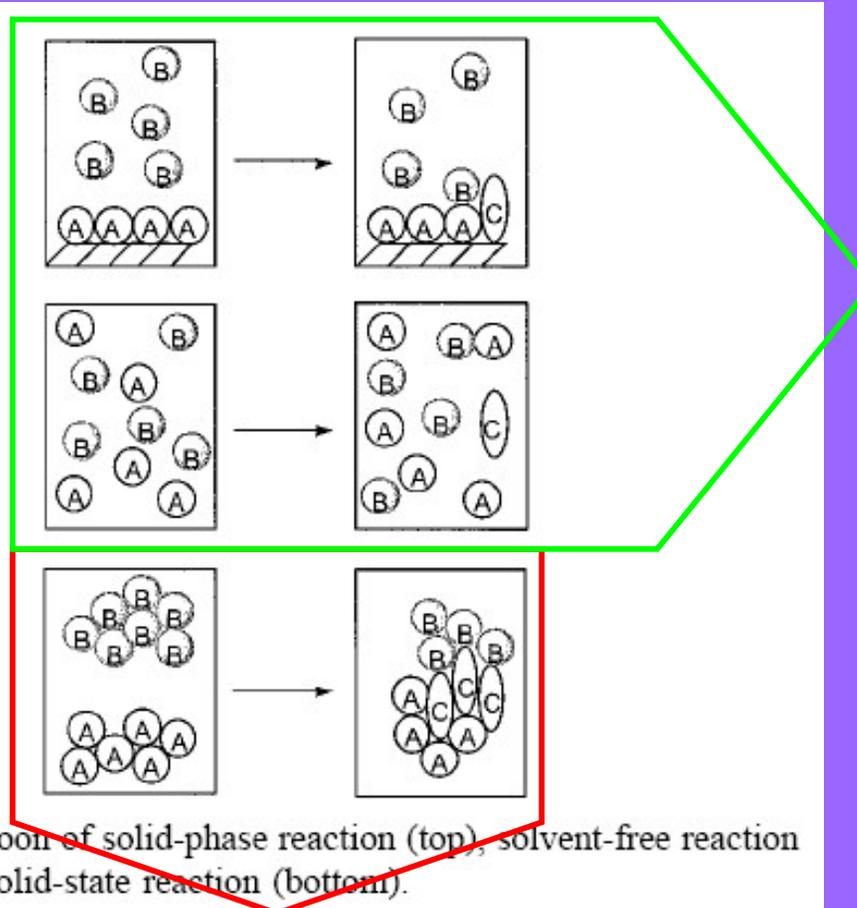

Figure 1. Cartoon of solid-phase reaction (top), solvent-free reaction (middle), and solid-state reaction (bottom).
**Figure 1.** Choline chloride + urea mixtures at 303 K (mol % ChCl, left to right –0, 10, 20, 33 ( $\chi_{eut}$ ), 40, 50, 100). The lowest observed melting point for this binary mixture occurs at a 1:2 ratio and has a melting point of 12 °C, making it a liquid at room temperature. The ratio this occurs at is defined as the *eutectic composition* ( $\chi_{eut}$ ).